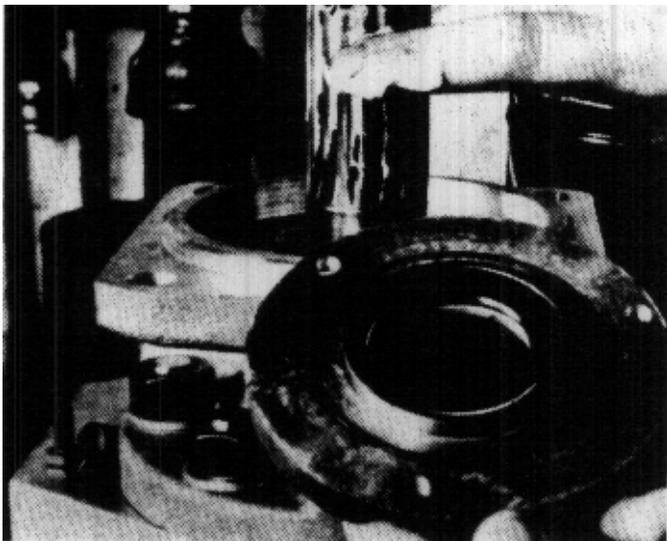

FIGURE 118
11. If the motor drive shaft is keyed, cover the keyway with thin tape to protect the seal lip as it travels down the shaft. If the shaft is splined, coat the splines with clean, heavy grease. (Fig. 118)